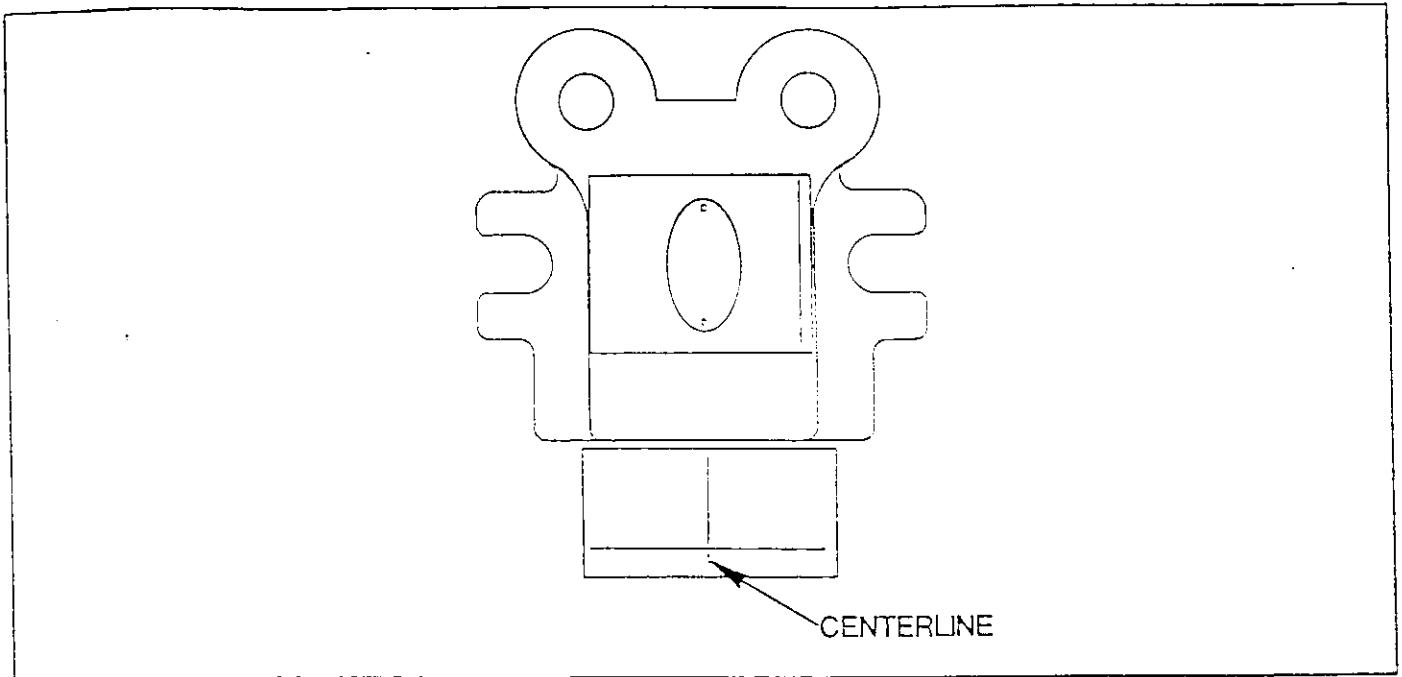

Figure 1-13
STEP 9: Scribe a line through center of angle iron as shown in Figure 1-13.